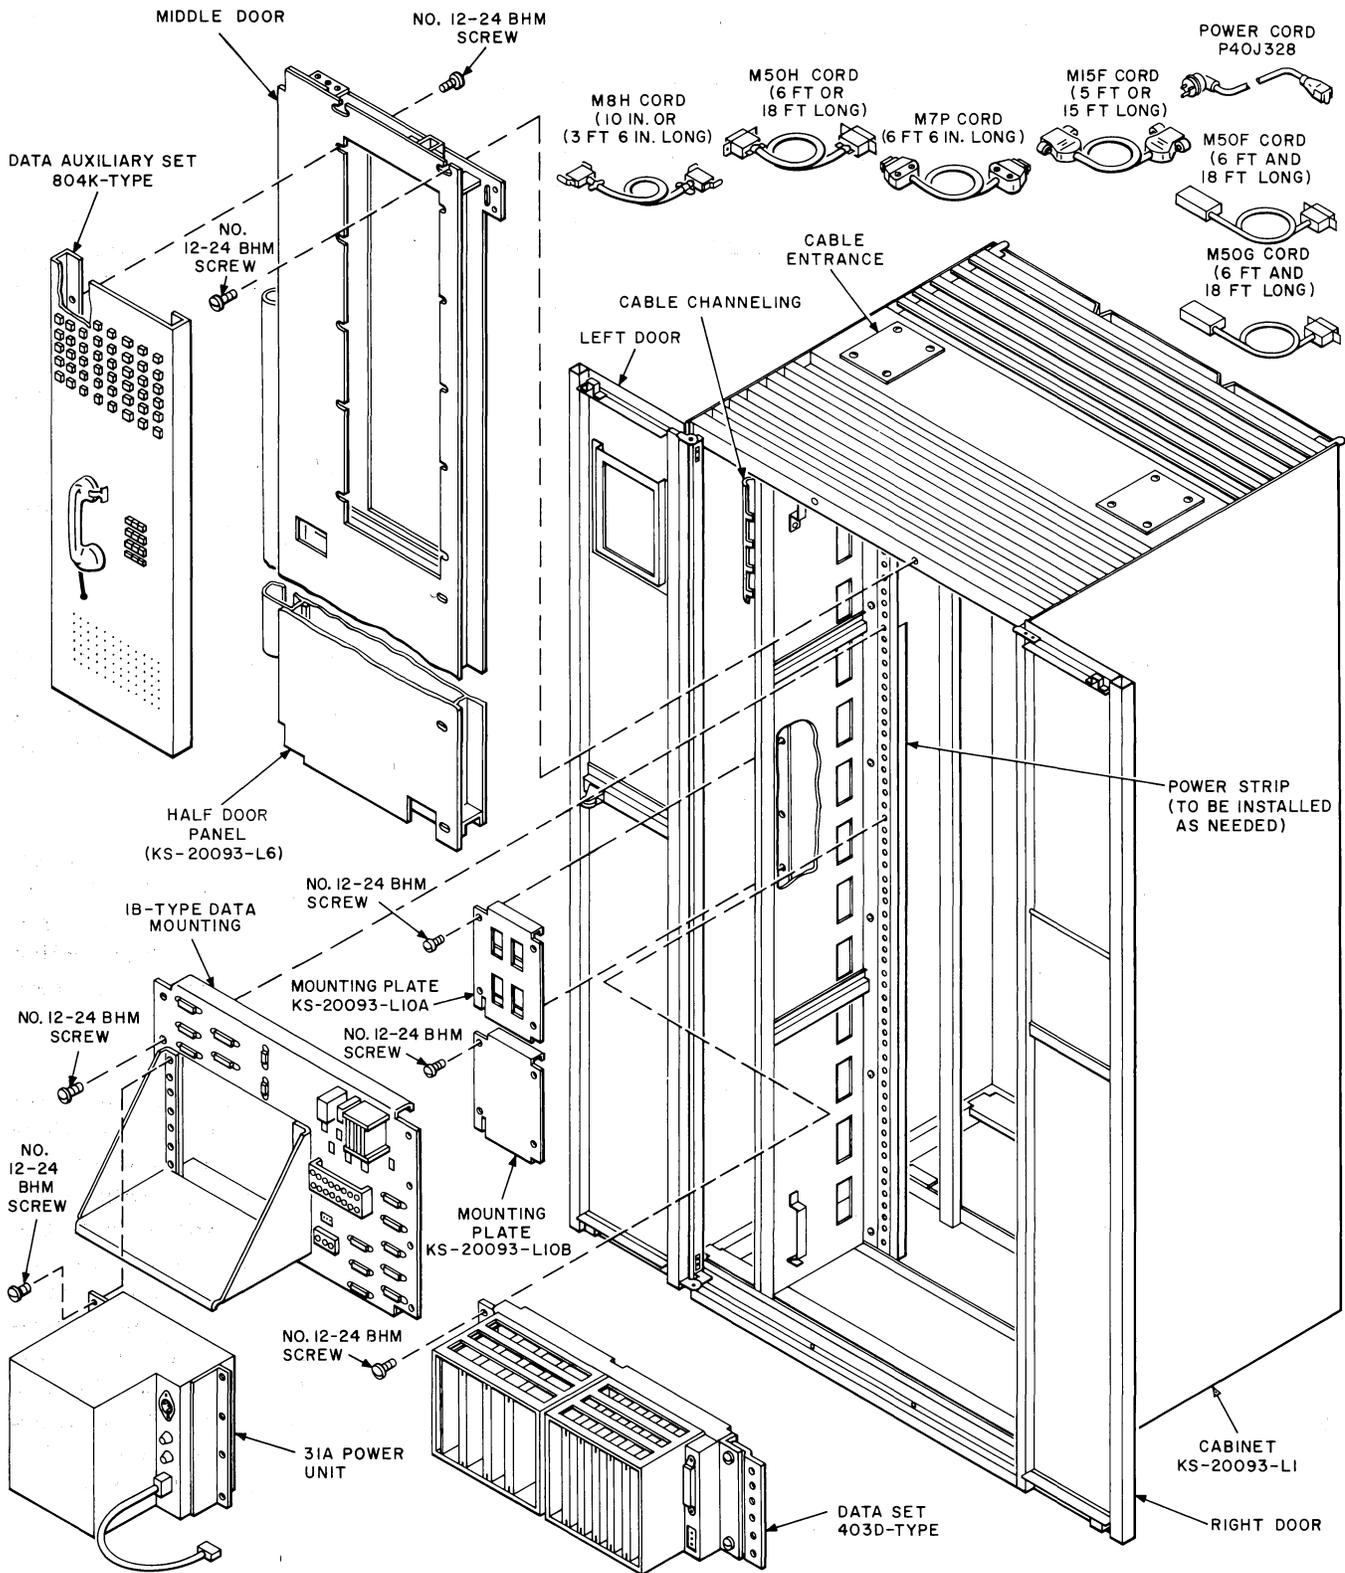

Fig. 1—Components Making Up a Multiple Data Set Station
1.04 Basic components of the multiple data set station are shown in Fig. 1. The functions and possible arrangements of the components are described in Table A. The cord and cable complement for interconnecting the components are described in Table B. A Data Auxiliary Set (DAS) 804K-type is used with the data station to provide test and control functions, and to provide conventional telephone service. A CALL DIRECTOR telephone set may be used in parallel with DAS 804K-type to provide these functions remotely. Since the use of the CALL DIRECTOR is optional, it is not shown in Fig. 1.